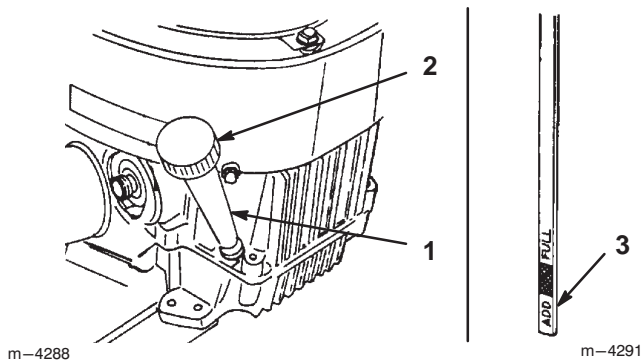

Figure 15
2. Clean around the oil dipstick (Fig. 15) so that dirt cannot fall into the filler hole and damage the engine.
3. Unscrew the oil dipstick and wipe the metal end clean (Fig. 15).
4. Slide the oil dipstick fully into the filler tube, but do not thread it onto the tube (Fig. 15). Pull the dipstick out and look at the metal end. If the oil level is low, slowly pour only enough oil into the filler tube to raise the level to the "FULL" mark on the dipstick.
5. Clean around the oil dipstick and unscrew the cap (Fig. 15).
6. Slowly pour approximately 80% of the specified amount of oil, page 20, into the filler tube (Fig. 15). Check the oil level; refer to Checking the Oil Level, page 20. Slowly add additional oil to bring the level to the "FULL" mark on the dipstick.